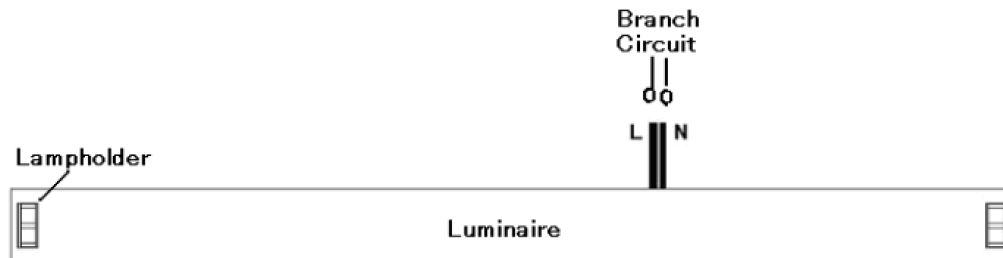

Figure 2
- STEP 3:** Disconnect luminaire supply wirings **L** and **N** to branch circuit as shown in Figure 2.